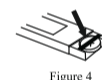

Figure 4
3. Gently pull out plastic circuit board with battery chamber approximately 1 cm (slightly less than 1/2") (See Figure 4)